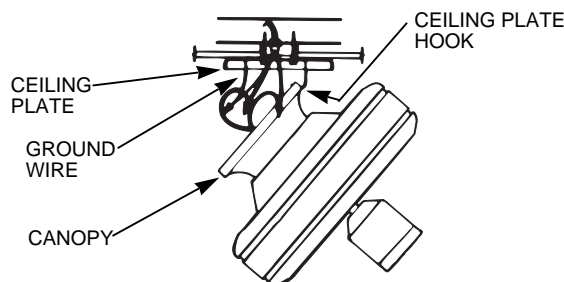

FIGURE 5A
C. Being careful not to scratch the canopy finish, hang the fan from the hook in the ceiling plate using one of the (2) slots in the canopy. See Figure 5A.
B. Being careful not to scratch the canopy finish, hang the fan from the hook in the ceiling plate using one of the (2) slots in the canopy. See Figure 5A.